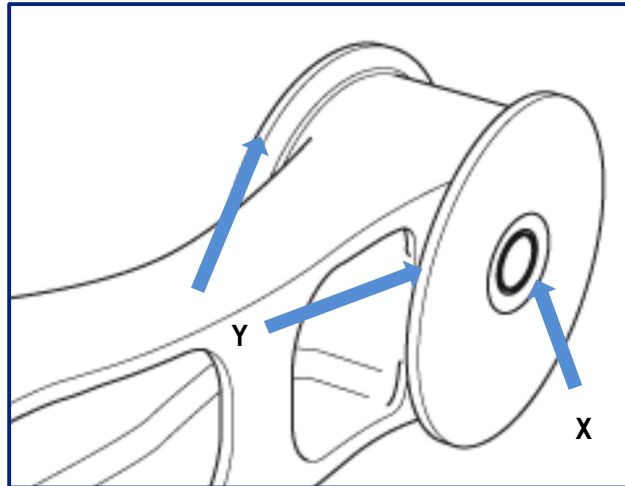

Fig 29
10. Insert steel inner sleeve "X" into the pivot bush central tube. Fit the replacement wear washers "Y" to either side of the pivot bush (Fig 29).